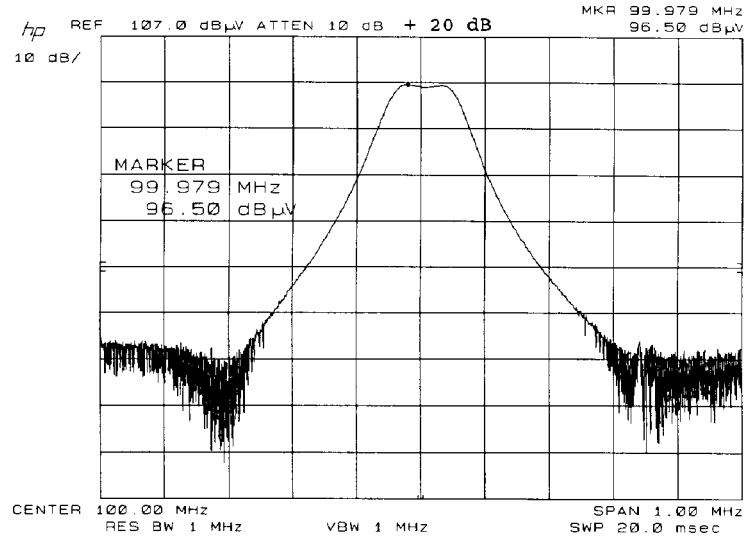

Figure 4-9. Peak Measurement of a CW Signal
- Press **PEAK SEARCH** on the spectrum analyzer and read the marker amplitude on the display. If an antenna is connected to the system, the antenna factors would be added to the reading to give actual field strength reading. Refer to Figure 4-9.